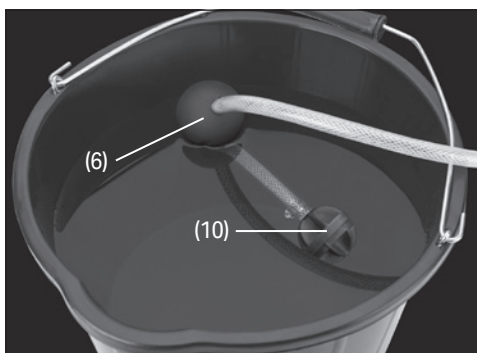

Fig. 7
4. Place the filter (10) end of the hose into a bucket or other clean water source. - Fig. 7.